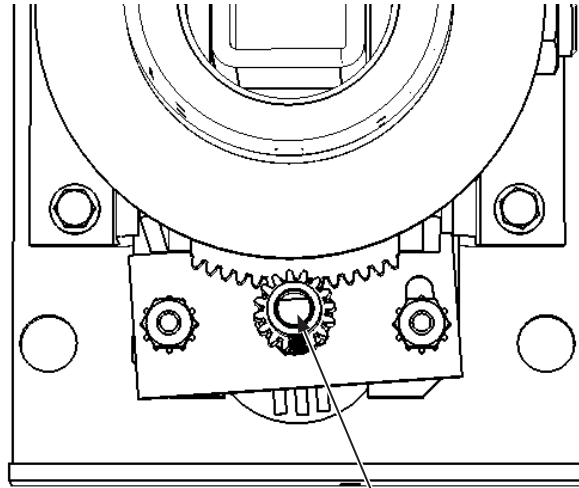

FIG. 11-2b X Axis (Left and Right) Volume
- 4** With the Control Unit's pointing to the centre of the screen, make sure that the D-Cut in the Volume pot is positioned as it is in FIG 11-2b